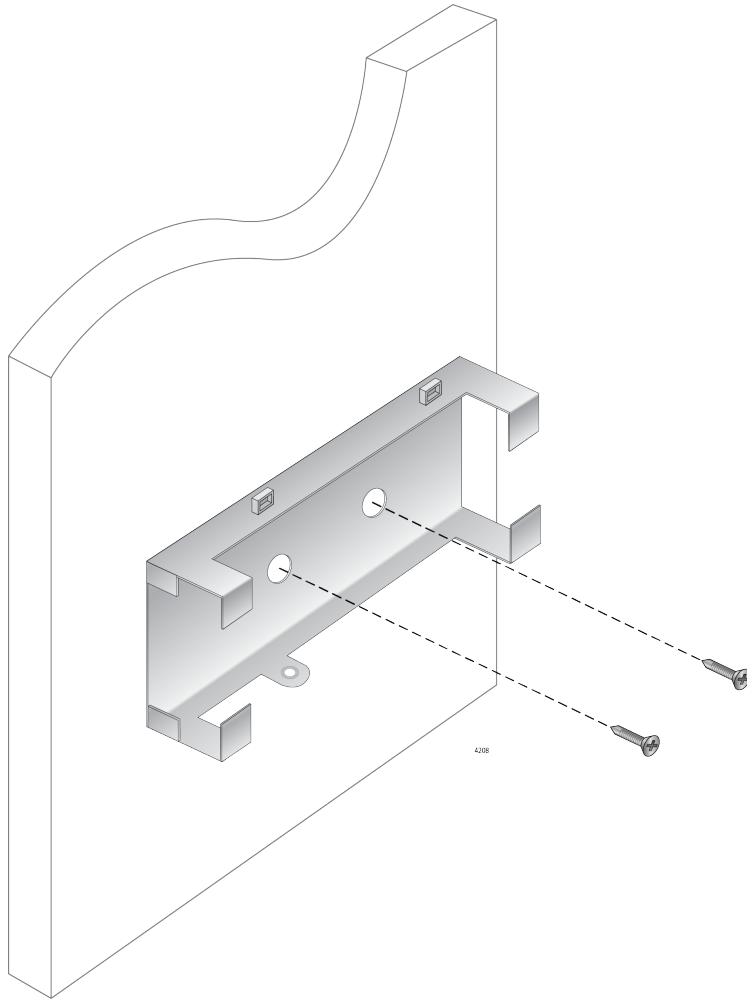

Figure 30. Securing the Mounting Bracket to the Wall
7. Secure the bracket to the wall using two wall mounting screws as shown in Figure 30.
8. Secure the bracket to the wall using two wall mounting screws. See Figure 30 on page 45.